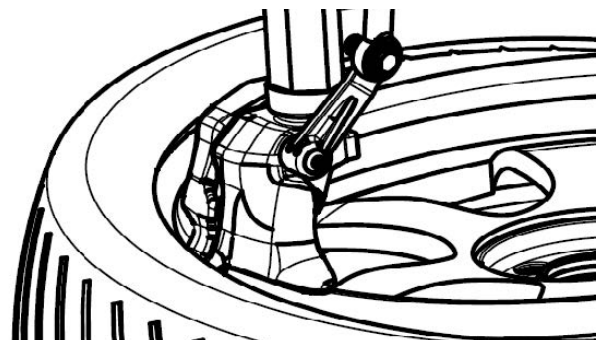

FIG 30
- After the demounting head into the tire lip, pull upward the control valve to lift the tire lip onto the circular convex part of demounting head like **FIG30**. At this time, step the rotation pedal to observe the tire lip and demounting hook, if there's no abnormality, step down the rotation pedal to rotate the turntable clockwise to take out the upper side of tire lip.